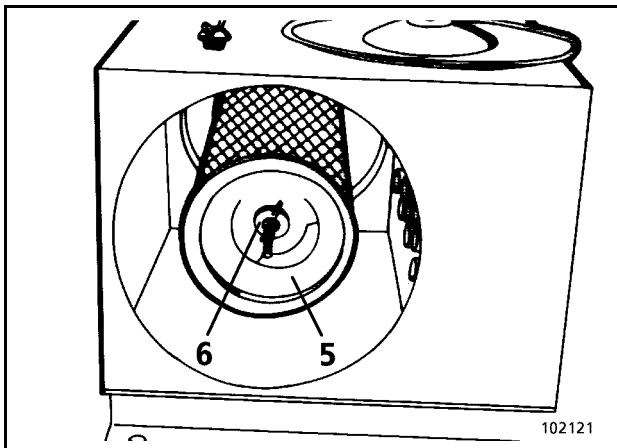

Fig. 8
Replace the safety filter element (5, Fig. 8) after 1000 operating hours or 3 cleaning cycles of the main filter element, at the latest, however, after one year of operation.
- Unscrew nut (6, Fig. 8) and withdraw safety filter element (5).